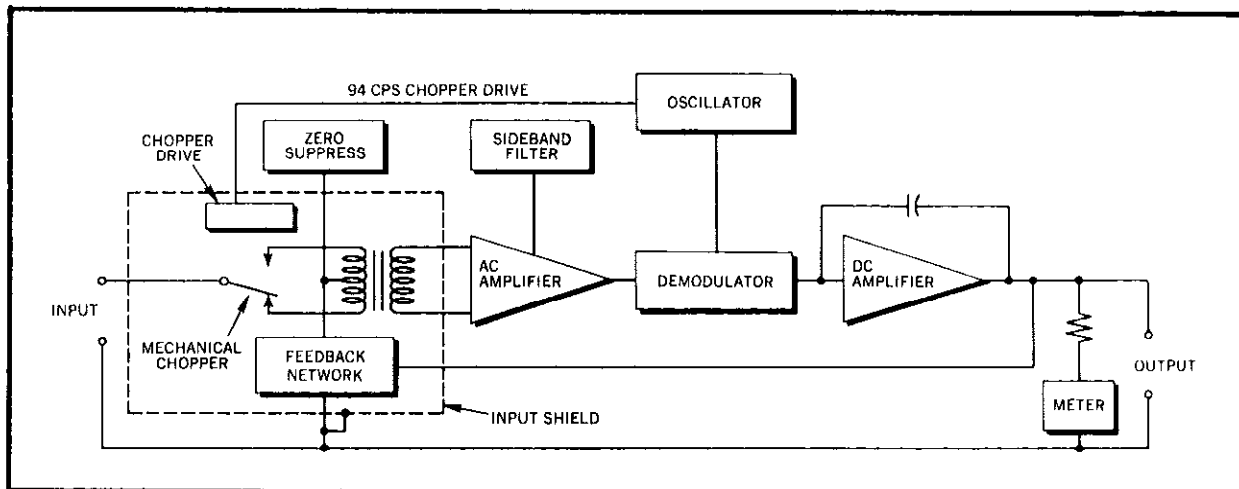

FIGURE 11. Block Diagram of Model 148 Amplifier Circuits.
a. The Model 148 consists of a chopper demodulator system followed by a dc amplifier. Feedback is applied to the whole loop. (See Figure 11.)